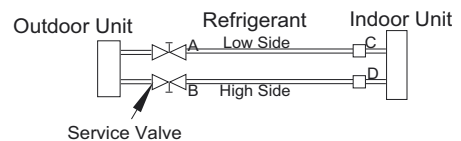

Fig. 16 – Service Valve
1. Completely tighten flare nuts A, B, C, D, connect manifold gage charge hose to a charge port of the low side service valve (see Fig. 16.)